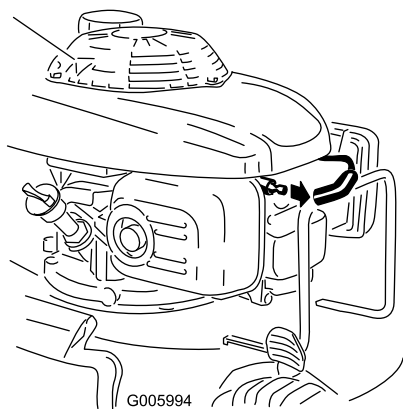

Figure 36
2. Disconnect the spark plug wire from the spark plug (Figure 36) before performing any maintenance procedure.
2. Disconnect the wire from the spark plug (Figure 36).